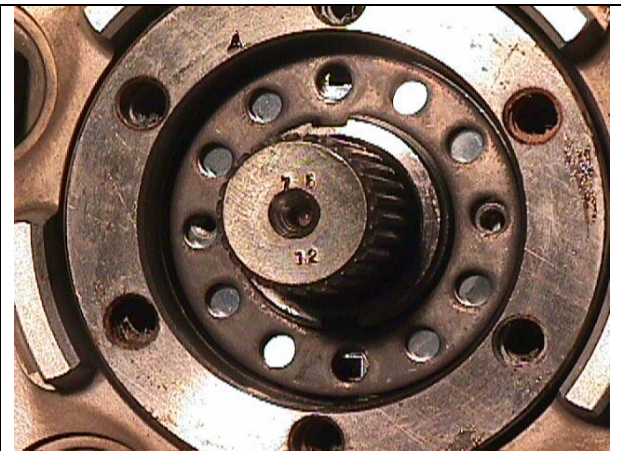

Figure 8
7. Install the set plate by aligning the holes in the set plate with the threaded holes in the spindle nut as shown in Figure 8. This may require slightly tightening or loosening the spindle nut for proper alignment.